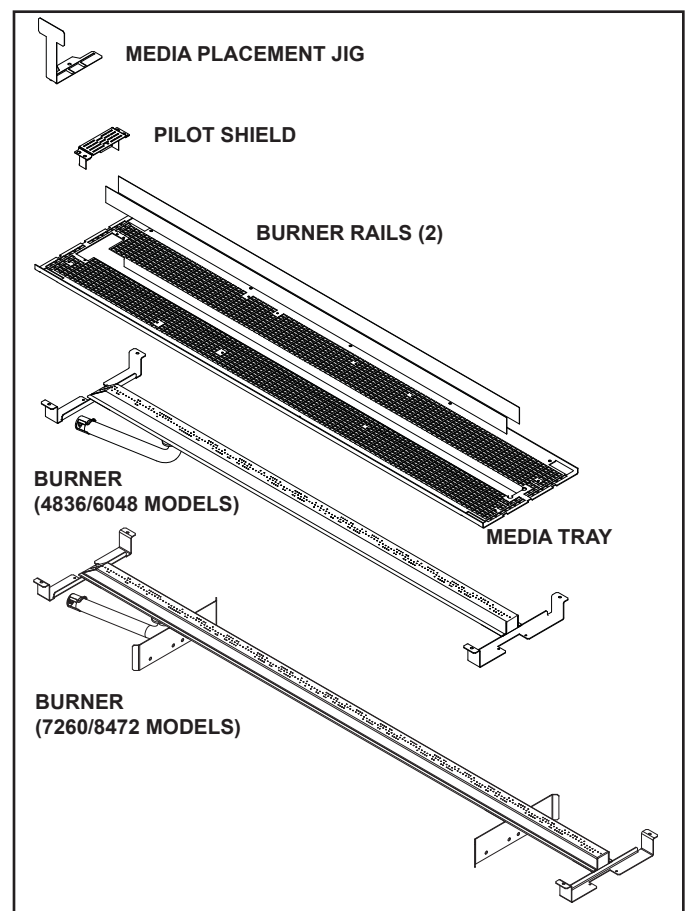

Figure 11.4. Media Tray Components
2. The included media placement jig, shown in Figure 2, MUST be used any time media are placed on the burner to ensure that none end up in the burner lighting area. Verify that the media placement jig is correctly installed in place in the appliance. See Figure 11.4.